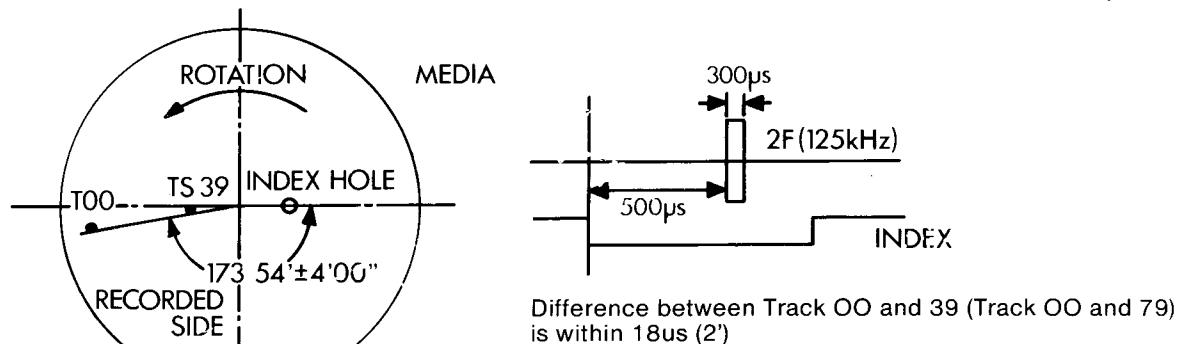

Fig. 2 Waveform of T39 (Index pattern – Radial alignment)
2. Adjustment of the index burst by use of Track 39 (Fig. 2). (Track 79, 159).	<input type="radio"/>
- 4) Adjust OO Sensor (8 on Fig. 6) so that scope shows correct difference as Fig. 2.